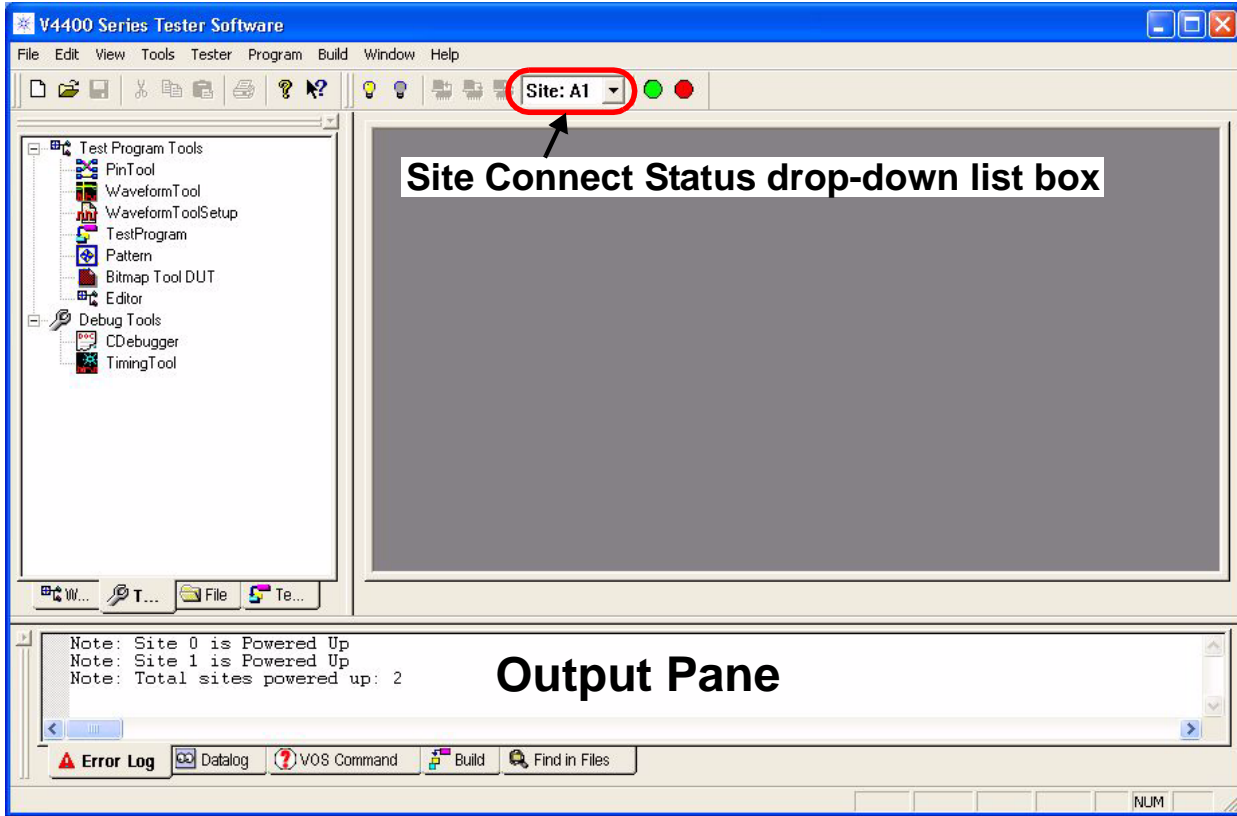

Figure 4-38. IDE Main Window Set Online
- 2 Selecting the yellow light bulb Set Online  toolbar button or corresponding Tester > Set Online command enables the IDE to connect to the tester when the Site Connect Status drop-down list box Site: A1 is enabled as shown in the toolbar in Figure 4-38.